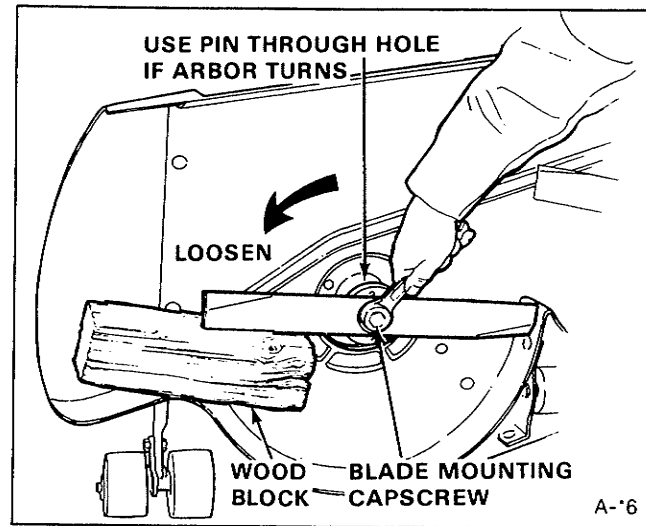

Figure 19. Removing Blade
2. Position the mower as in figure 19. Secure the mower so it will not fall or slide.
4. To remove the blade for sharpening, use a wooden block to hold blade while removing the cap screw (figure 19). Position the wrench as shown so that your hand will not fall onto the blade cutting edge if wrench slippage occurs.